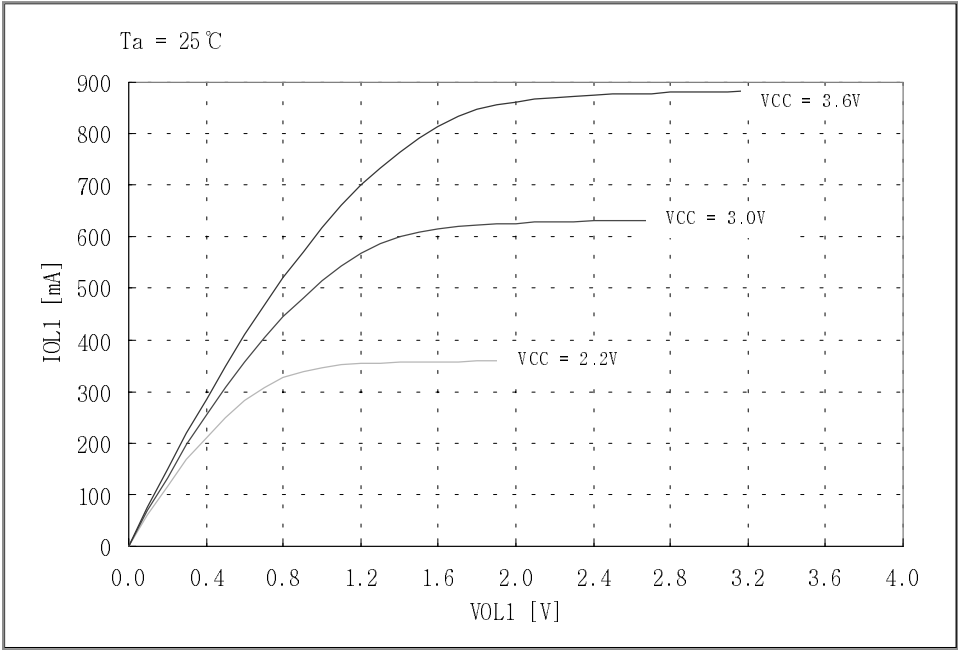

Fig 7-2. I_{OL1} vs. V_{OL1} Graph. (REMOUT port)
*2 Refer to < Fig.7-2 I_{OL1} vs. V_{OL1} Graph >